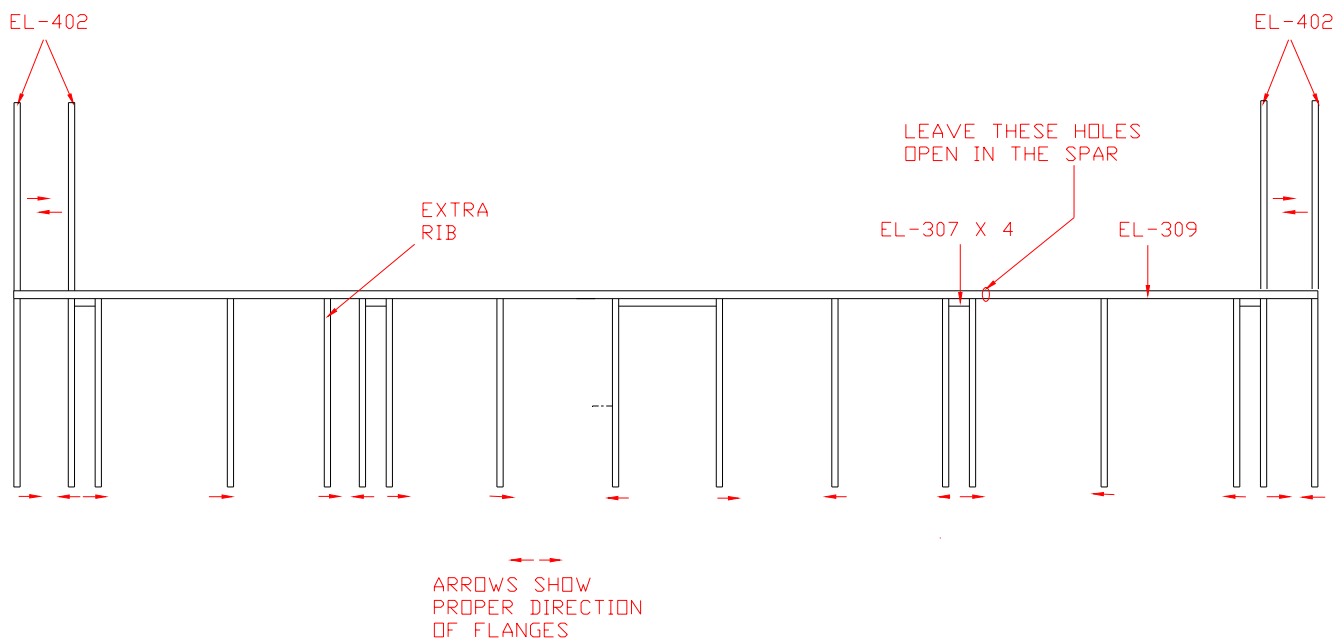

Figure 3.2.1
- 1) Cleco the Elev/Rud Ribs (EL-303) and Tip Ribs (EL-402) to the Main Spar.. **NOTE:** The ribs will need to be straightened so they lay flat on the table. This can be done with fluting pliers or a Shrinker. If fluting pliers are used, ensure that the flutes that are made on the ribs are located between the rivet holes in the Skin. Cleco a Rib to one of the rib rivet lines in the Skin and mark the hole locations. Figure 3.2.1.